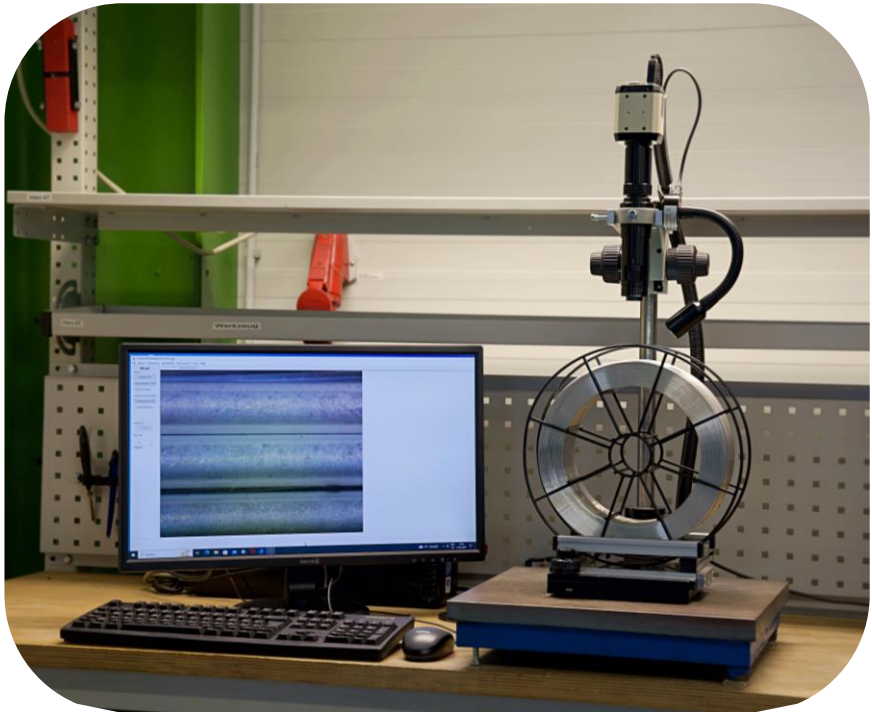

Fig. 48 Setup
The digital microscope provides, at reasonable cost, the possibility to visually inspect the wire surface on sample pieces or directly on spools (figure 48). Comparing the surface after different stages of production, ideally the particular process during which a specific type of surface damage is generated, can be verified.
- a. wire spools (up to dimension of SD 300, see fig.: 48) and